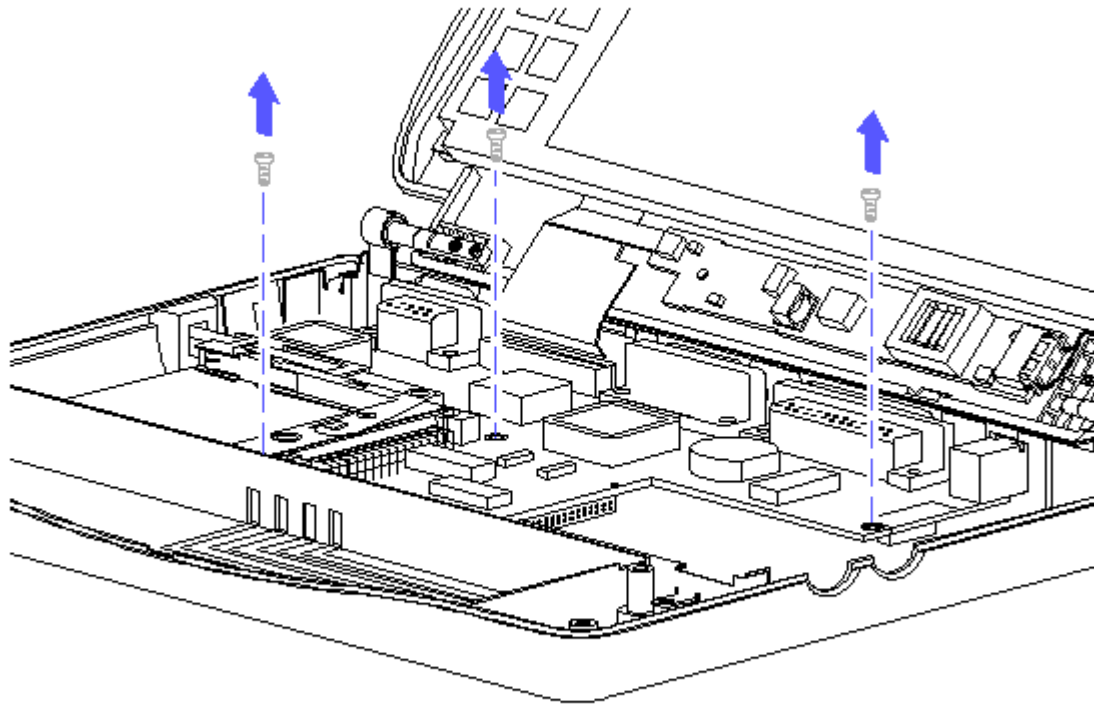

Figure 3-49. Removing the Remaining Screws from the System Board
11. Remove the three remaining screws from the system board (Figure 3-49).